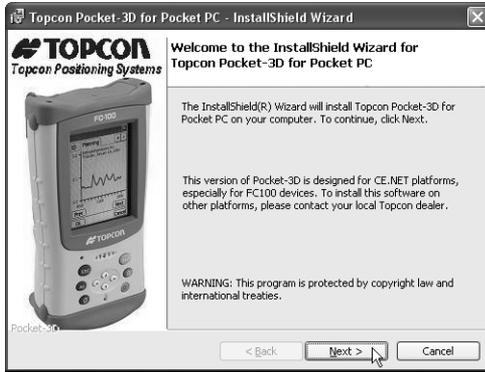

Figure 1-4. Begin Pocket-3D Installation
- Click the Pocket-3D setup icon to run the install program and click **Next** on the *Welcome* screen (Figure 1-4). Follow the on-screen instructions.